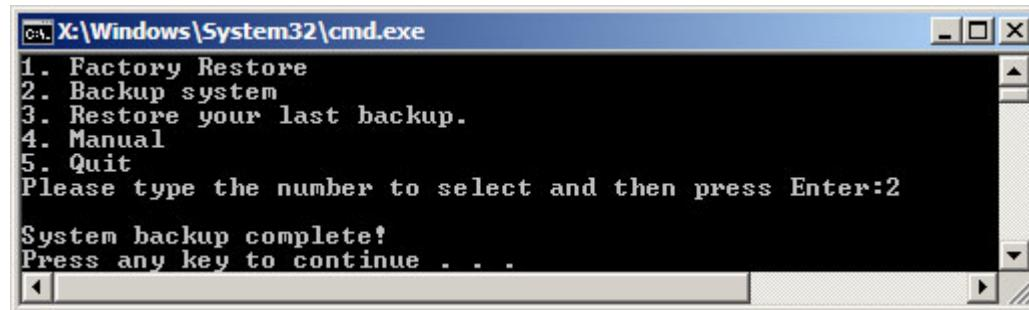

Figure B-38: System Backup Complete Window
**Step 3:** The screen shown in **Figure B-38** appears when system backup is complete.